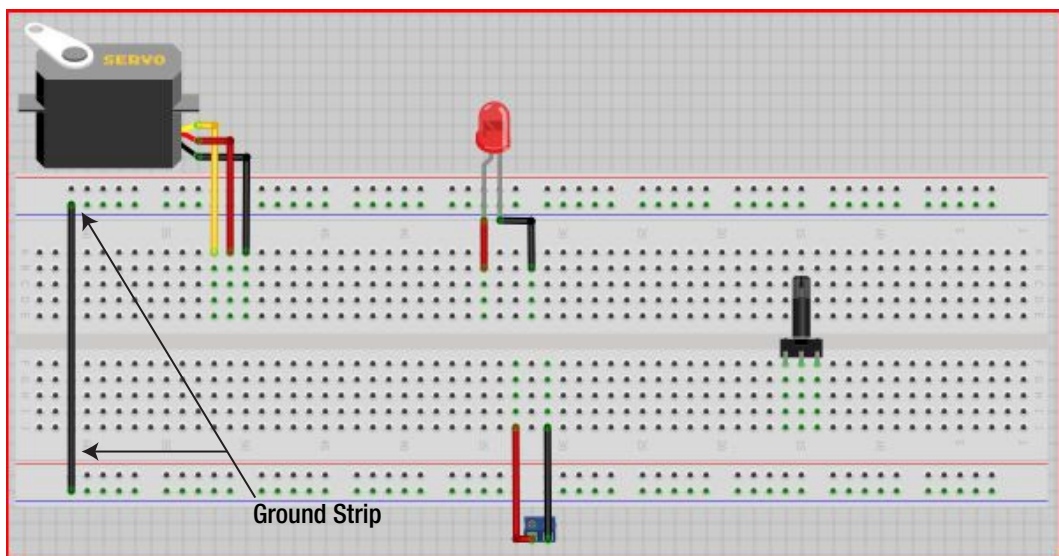

Figure 23-7. Attach the ground strips to one another
6. Now attach a black jumper wire from one side of the breadboard to the ground strip on the other side, as shown in Figure 23-7. Notice that we've connected both ground columns, indicated by the blue line. If your breadboard doesn't have the color strip, just make a note of which two columns on your breadboard you've designated as ground.